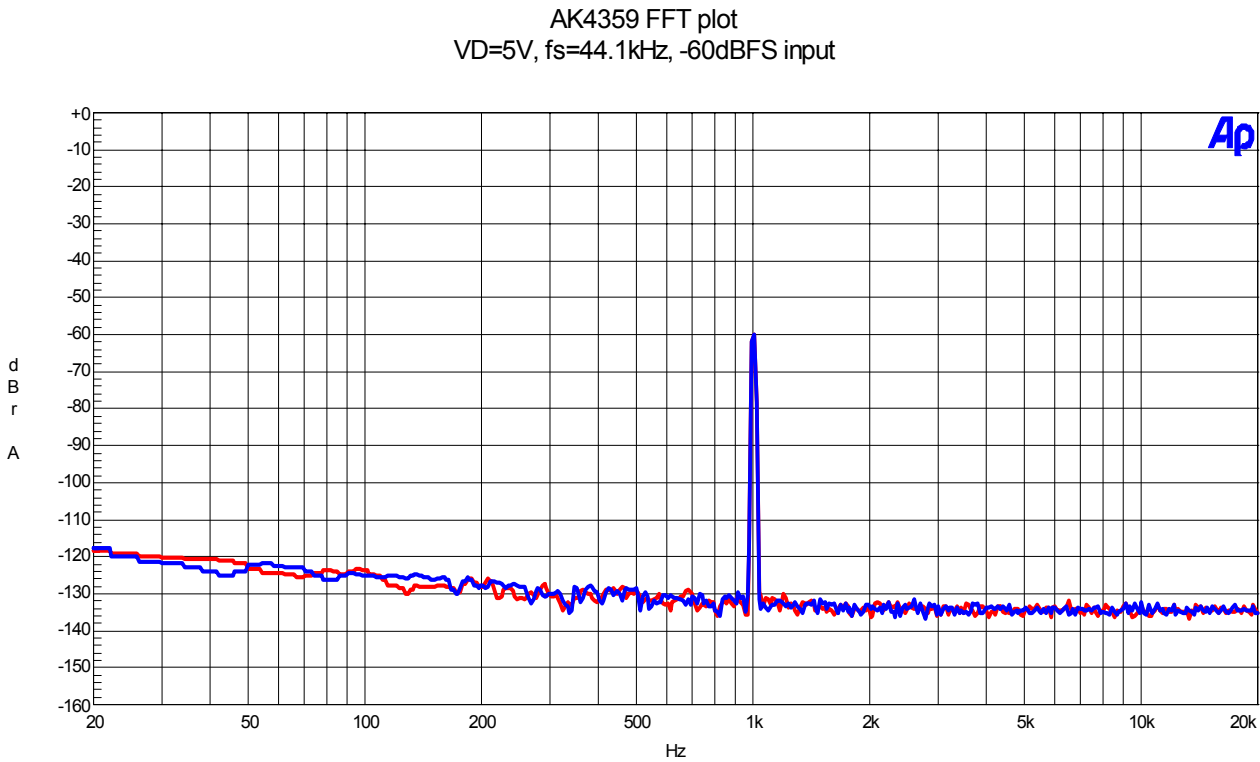

Figure 5. FFT (1kHz, -60dBFS input)
- Figure 5. FFT (1kHz, -60dBFS input)